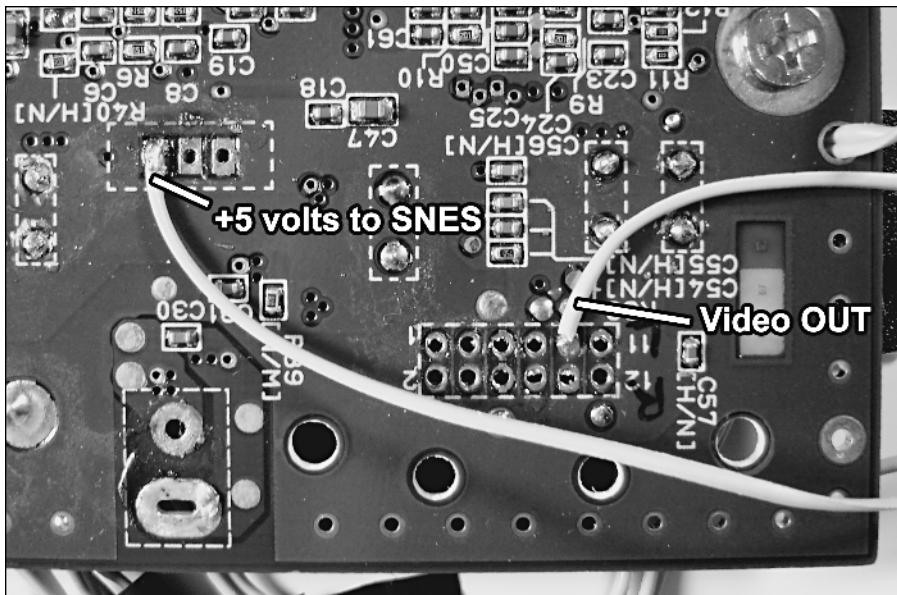

FIGURE 10-38: Connecting the power and the video wire to the SNES board.
3. Now let's make the power and video connections to the SNES. At the lower right-hand corner of the SNES board, you'll see the area shown in Figure 10-38. Connect the +5 volts to SNES wire coming from the PSOne screen to the spot shown. Connect a 4" wire to the spot marked *Video OUT*.